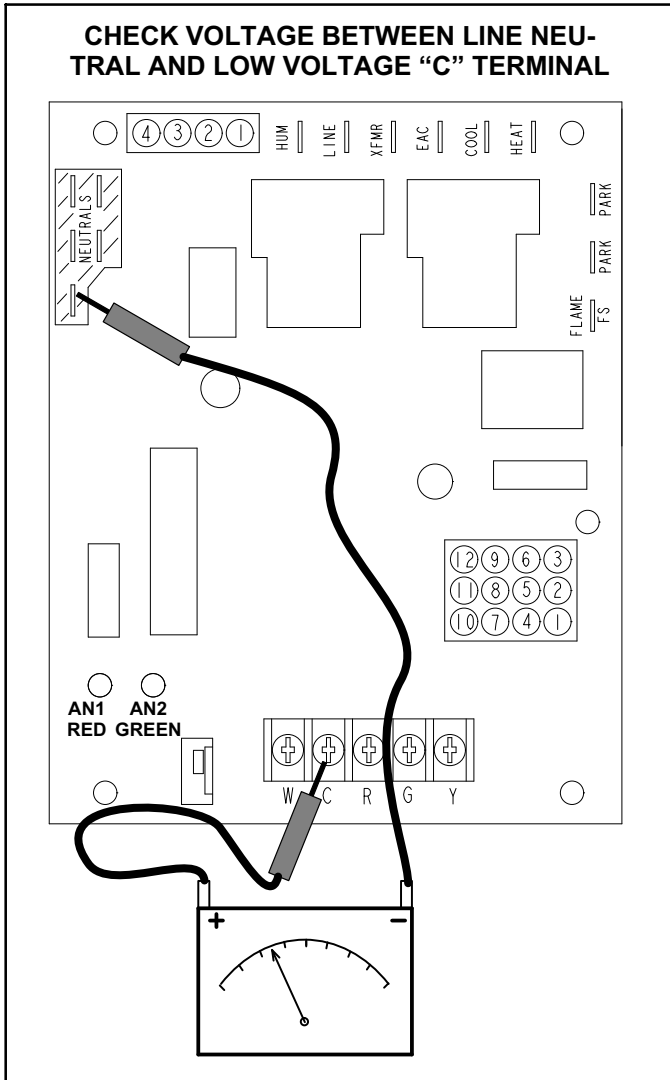

FIGURE 15
- 1 - Measure the AC voltage between Line Neutral (spade terminals) and "C" terminal (low voltage terminal block) on the integrated control. See figure 15. A wide variation in the voltage between Line Neutral and "C" as a function of load indicates a poor or partial ground. Compare the readings to the table below. If the readings exceed the maximum shown in table 11, make repairs before operating the furnace.